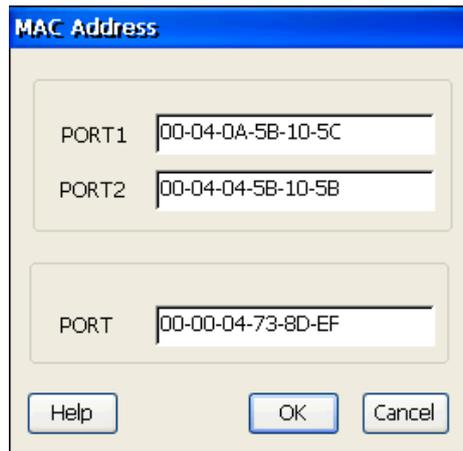

Figure 5.16.2 MAC Address
1. Click [System Manager] menu item. Select [MAC Address]. MAC address setting box will pop up, as is shown in figure 5.16.2.